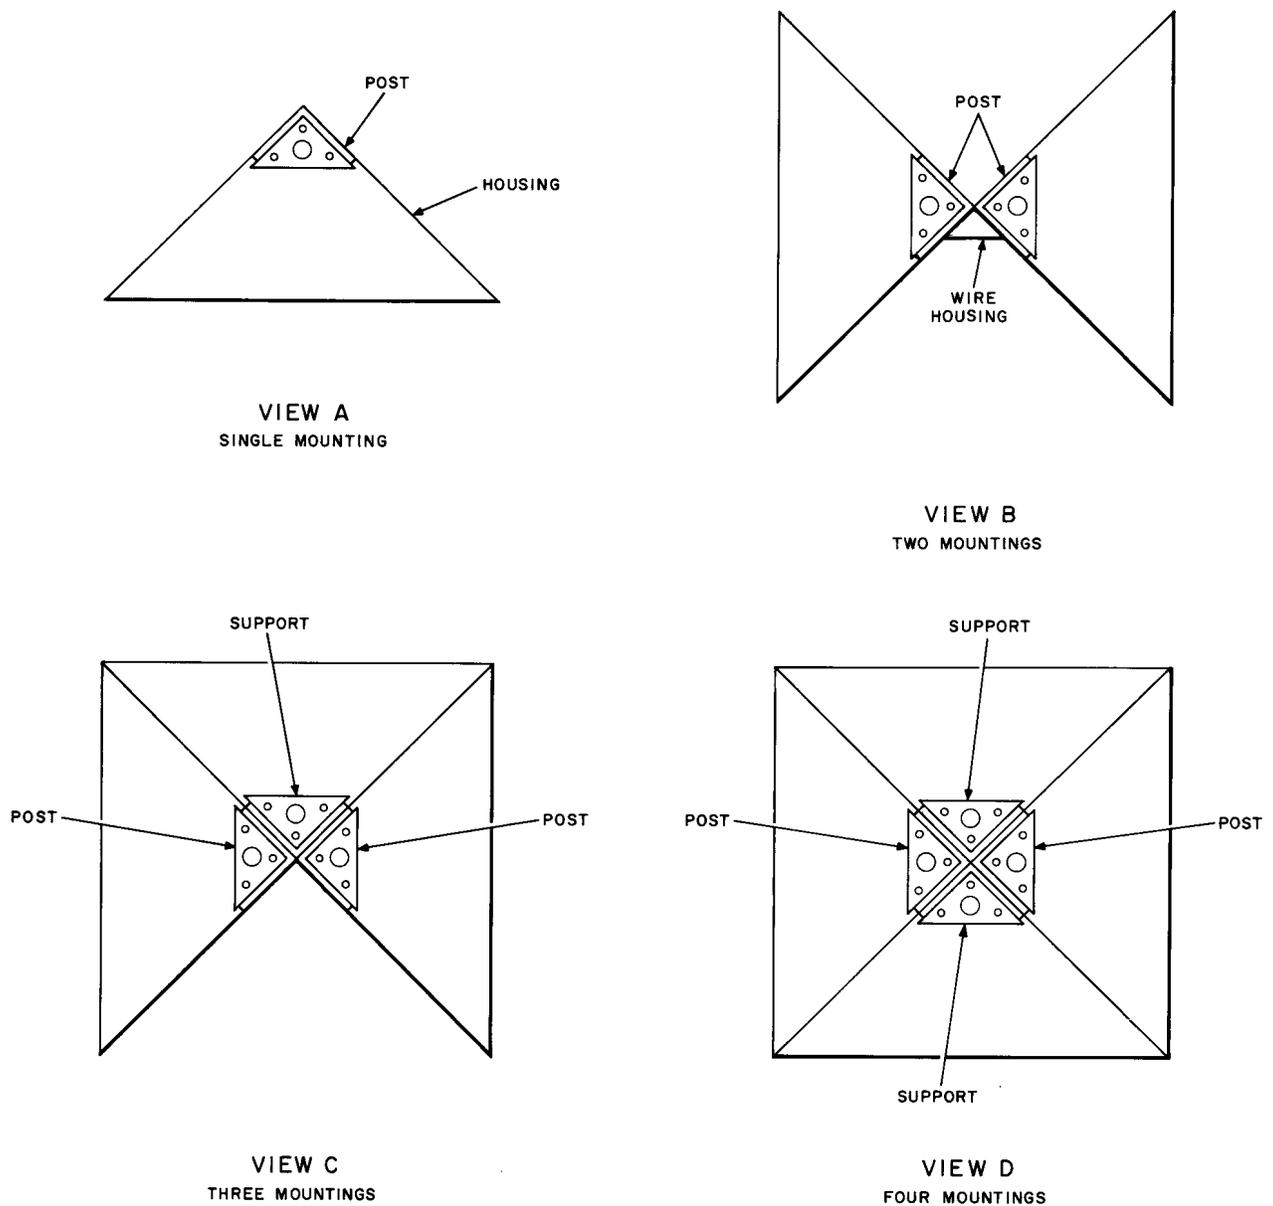

Fig. 6—Various Arrangements for Post Mountings
- (e) For back-to-back installations (View B, Fig. 6), install KS-19426, List 16 wire housing between the two posts using the four nipples supplied with housing. Install wire housing with the lip flush with top of posts.
- (f) For cluster mounting installations (Views C and D, Fig. 6) install KS-19426, List 4